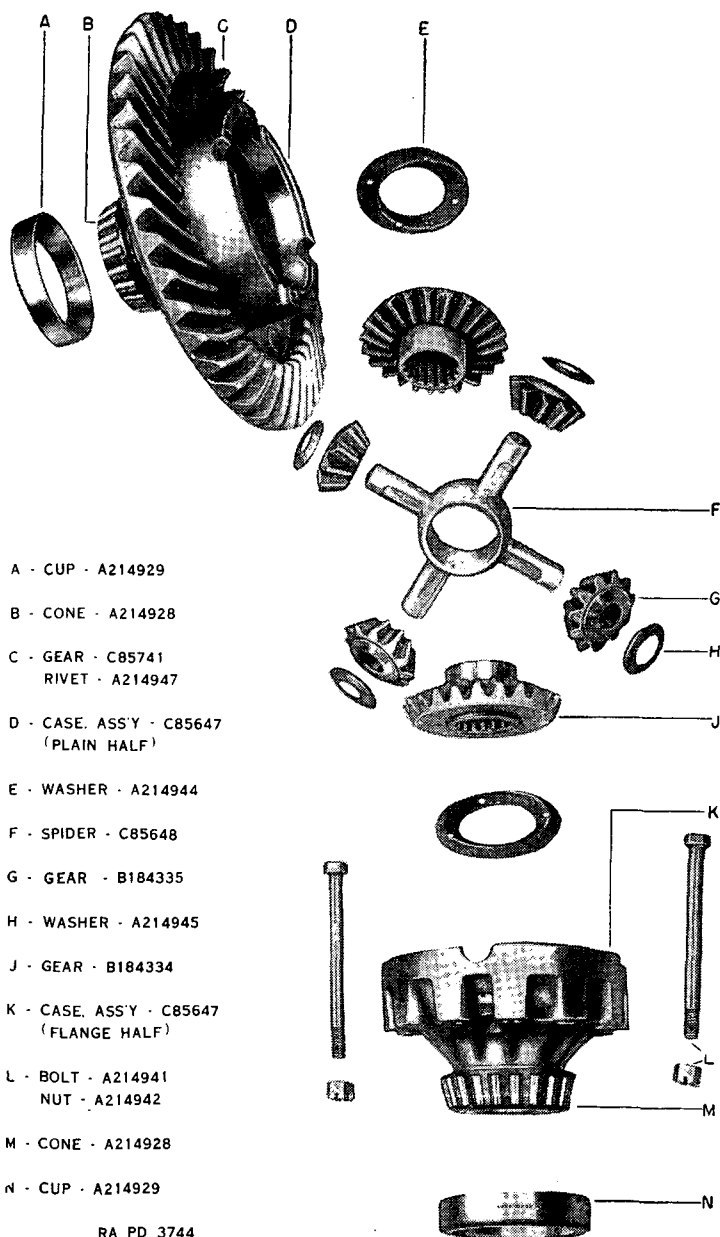

FIGURE 58.—Rear axle differential case assembly, partially exploded.
(6) Split differential case—cutting pliers,  $\frac{3}{4}$ -inch socket wrench, hammer. Cut the locking wire (A214943) threaded through case bolts and remove twelve  $\frac{1}{2}$ -inch bolts (A214941) and nuts (A214942). Tap the side of case to loosen and pull away one half (fig. 58).